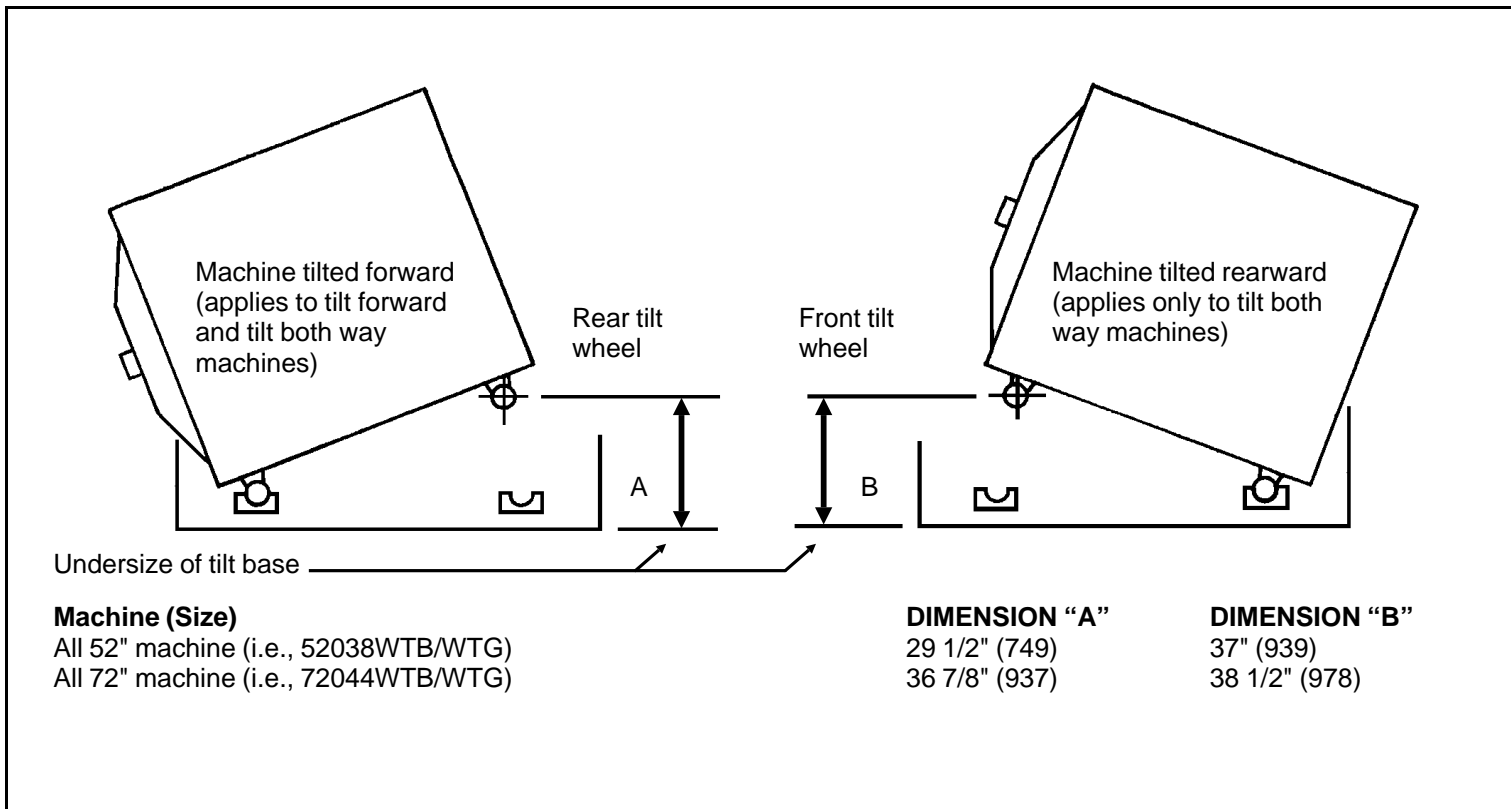

FIGURE 2 (MSSMA415AE)
The proper tilt limits are shown in FIGURES 2, 3, and 4. Measurements are taken from the base vertically to the center of the appropriate tilt wheel.
3. Using the tilt controls (see "NORMAL OPERATION . . ." elsewhere), tilt the machine until the limit of tilt, shown in FIGURE 2, is achieved.